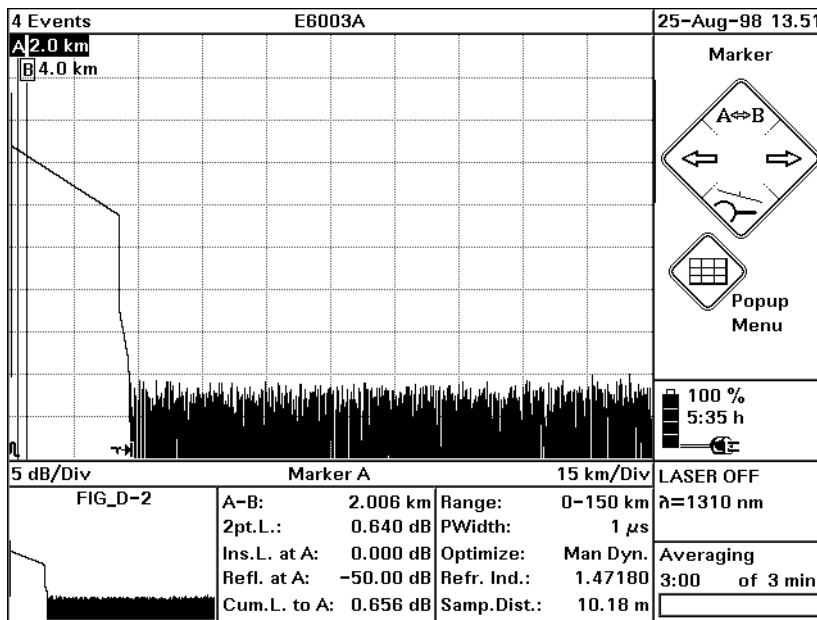

Figure D-2 Dynamic Range Test: Full Trace View
- 5** View the complete trace. See Figure D-2.